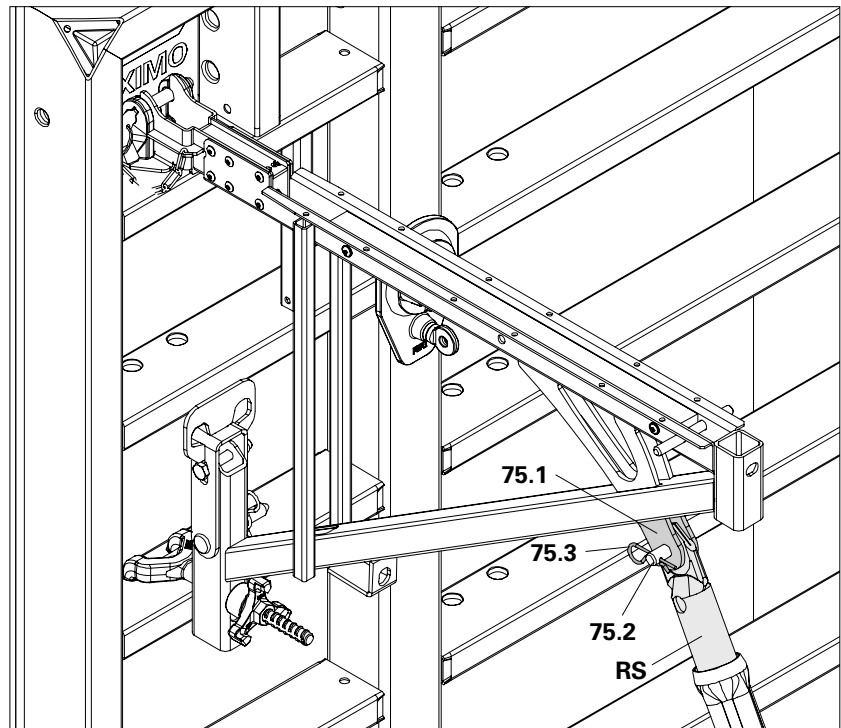

Fig. A6.01b
Connect Push-Pull Prop (RS) and connection lugs (75.1) with bolts (75.2) and cotter pins (75.3). (Fig. A6.01b)